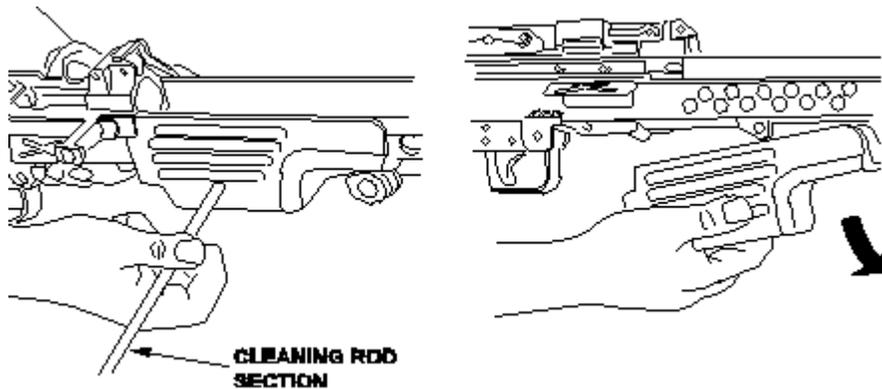

Figure 1
- (2) (Figure 1) Remove the handguard by pushing handguard retaining pin to the left using a cleaning rod section, then remove handguard downward.